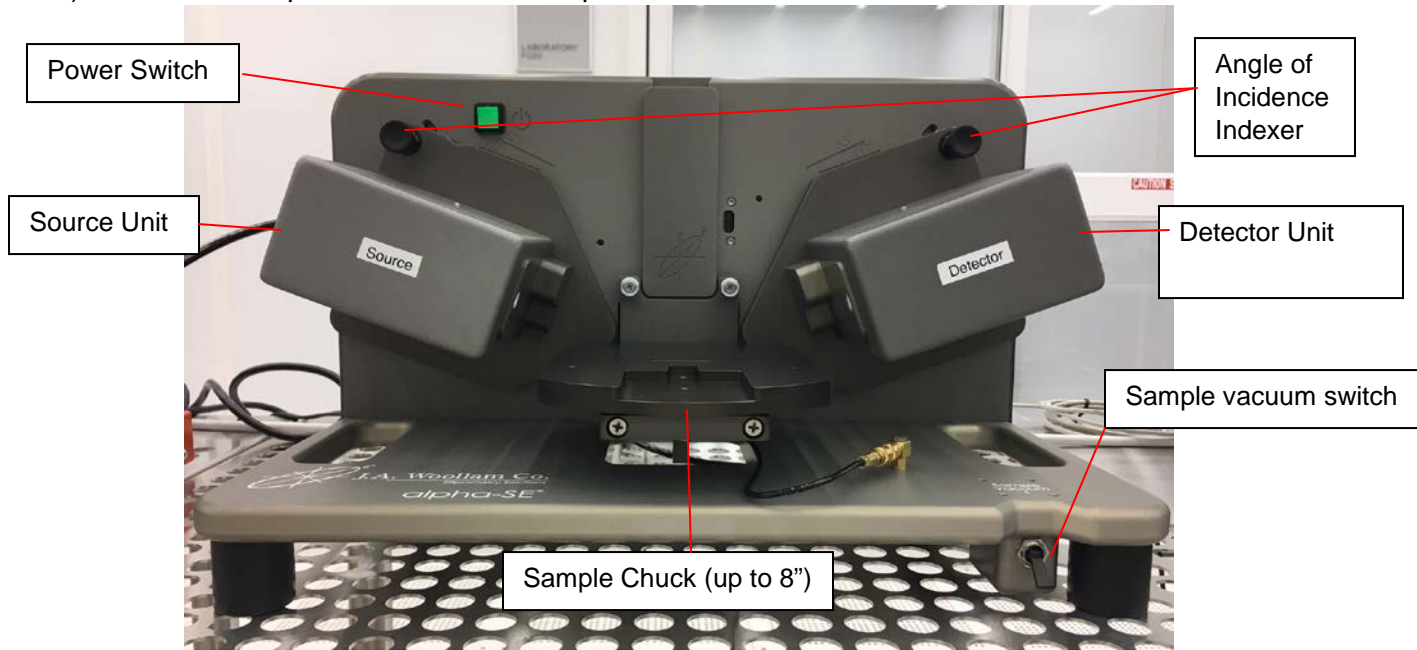

Figure 2: Parts of the ellipsometer
- 3) Mount the sample on the sample chuck. Switch on the vacuum (Figure 2).